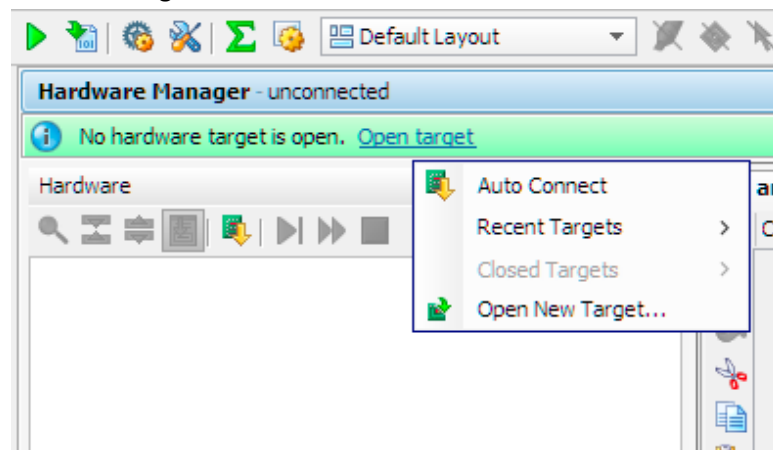

Figure 26 Connecting to the FPGA
30. A new window called hardware manager is opened. Click on the link called "Open target" from the top of this window as shown in Figure 26 and select "Auto Connect".